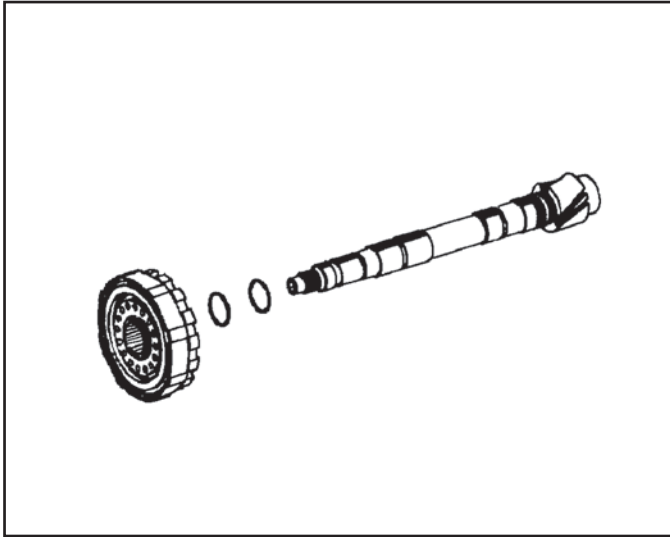

Figure 135
1. Install two output shaft to 4th clutch housing O ring seals on the output shaft and lubricate with petroleum jelly generously (See Figure 135).
2. Carefully slide the 4th clutch housing assembly over the O rings and hand press the drum down until it is up against the pinion gear (See Figure 135).